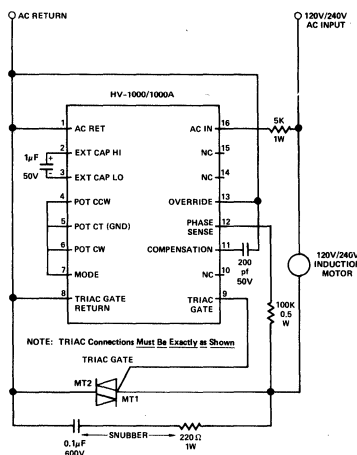

FIGURE 4
Figure 4 shows the basic application circuit for HV-1000. This circuit would be suitable for a 1/2 HP motor. For smaller or larger motors, the time constant capacitor (between pins 2 and 3) and snubber capacitor should be scaled in proportion to the size of the motor.
- (a) Stability: A small number of motors, primarily amongst the larger (above 1 HP) single phase motors may not necessarily run in a stable fashion with the application circuit of Figure 4. The symptoms are irregular vibration and repeated jerky application of full power to the motor. An oscilloscope placed in differential mode across pins 2 and 3 will show rapid fluctuations in voltage instead of the steady voltage levels characteristic of control equilibrium. This and similar effects are described in Harris Application Note 542. The problem is helped by increasing the inertia on the shaft (e.g., adding a flywheel), by increasing the time constant capacitor and sometimes by adding a potentiometer and adjusting it for smaller power savings. If all these measures fail it may be that a special application circuit will be needed as described in Application Note 542. The effect is dependent on which company manufactured the motor.